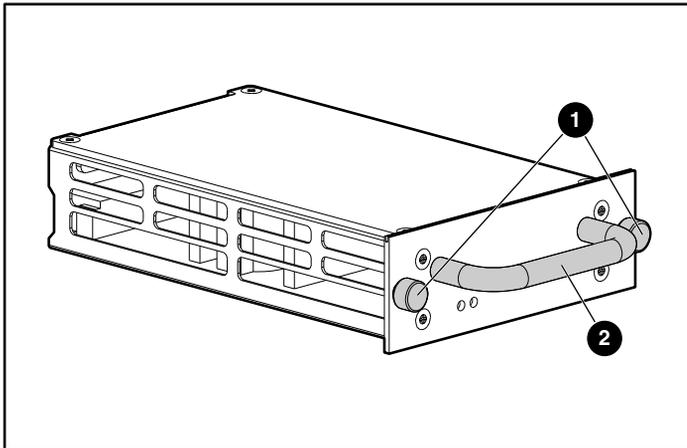
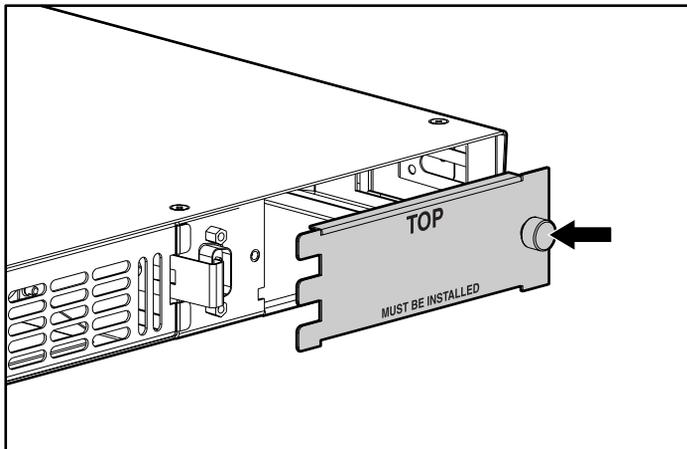

Figure 7-2: Thumbscrews and handle of a power module
Figure 7-3: Thumbscrew of a power bay cover
1. Loosen the thumbscrews **1** in a counter-clockwise rotation on the power module or the power bay cover as shown in Figure 7-2 and Figure 7-3.
2. To remove a power module, hold the handle ❷ shown in Figure 7-2 and pull out the module until it has completely cleared the power bay.
2. Remove the new power module from its shipping container and remove all packing material from around the module. See Figure 7-2 for an illustration of a power module.
3. To install a power module, hold the handle ❷ shown in Figure 7-2, align the bottom plate of the module beneath the guides of the bay opening, and slide the module into the power bay until the outer plate of the module is flush against the front-side of the router.
To install a power bay cover, carefully slide the cover so that it clips onto the left side of the power bay. Verify the orientation of the warning message as seen in Figure 7-3.